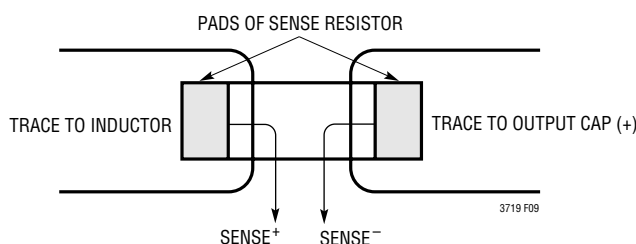

Figure 8. Proper Current Sense Connections
3) Are the  $SENSE^-$  and  $SENSE^+$  leads routed together with minimum PC trace spacing? The filter capacitors between  $SENSE^+$  and  $SENSE^-$  pin pairs should be as close as possible to the LTC3719. Ensure accurate current sensing with Kelvin connections at the current sense resistor. See Figure 8.